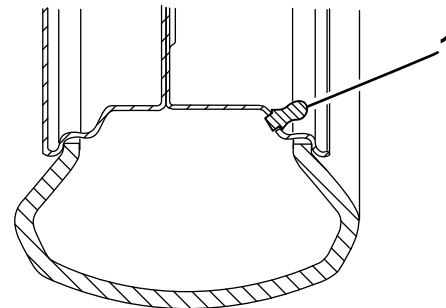

Figure 2
4. Install the valve stem extension onto the valve stem (Figure 2).